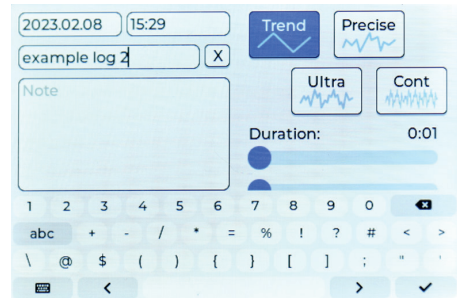

Figure 19
2. Tap the 'Logging' button in the Measurement screen (see Figure 16). This takes you to the Log session screen (Figure 19).
4. Tap the desired log interval to set the time interval of the measurement (see Figure 19).